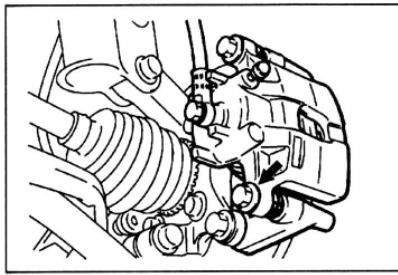

Fig. 16-17
- (2) When the thickness is under the limit , replace the pads assembly on both sides of wheels at the same time.
- (3) Remove lock pin from the caliper, lift caliper assembly fixed with wires.(see Fig.16-17)